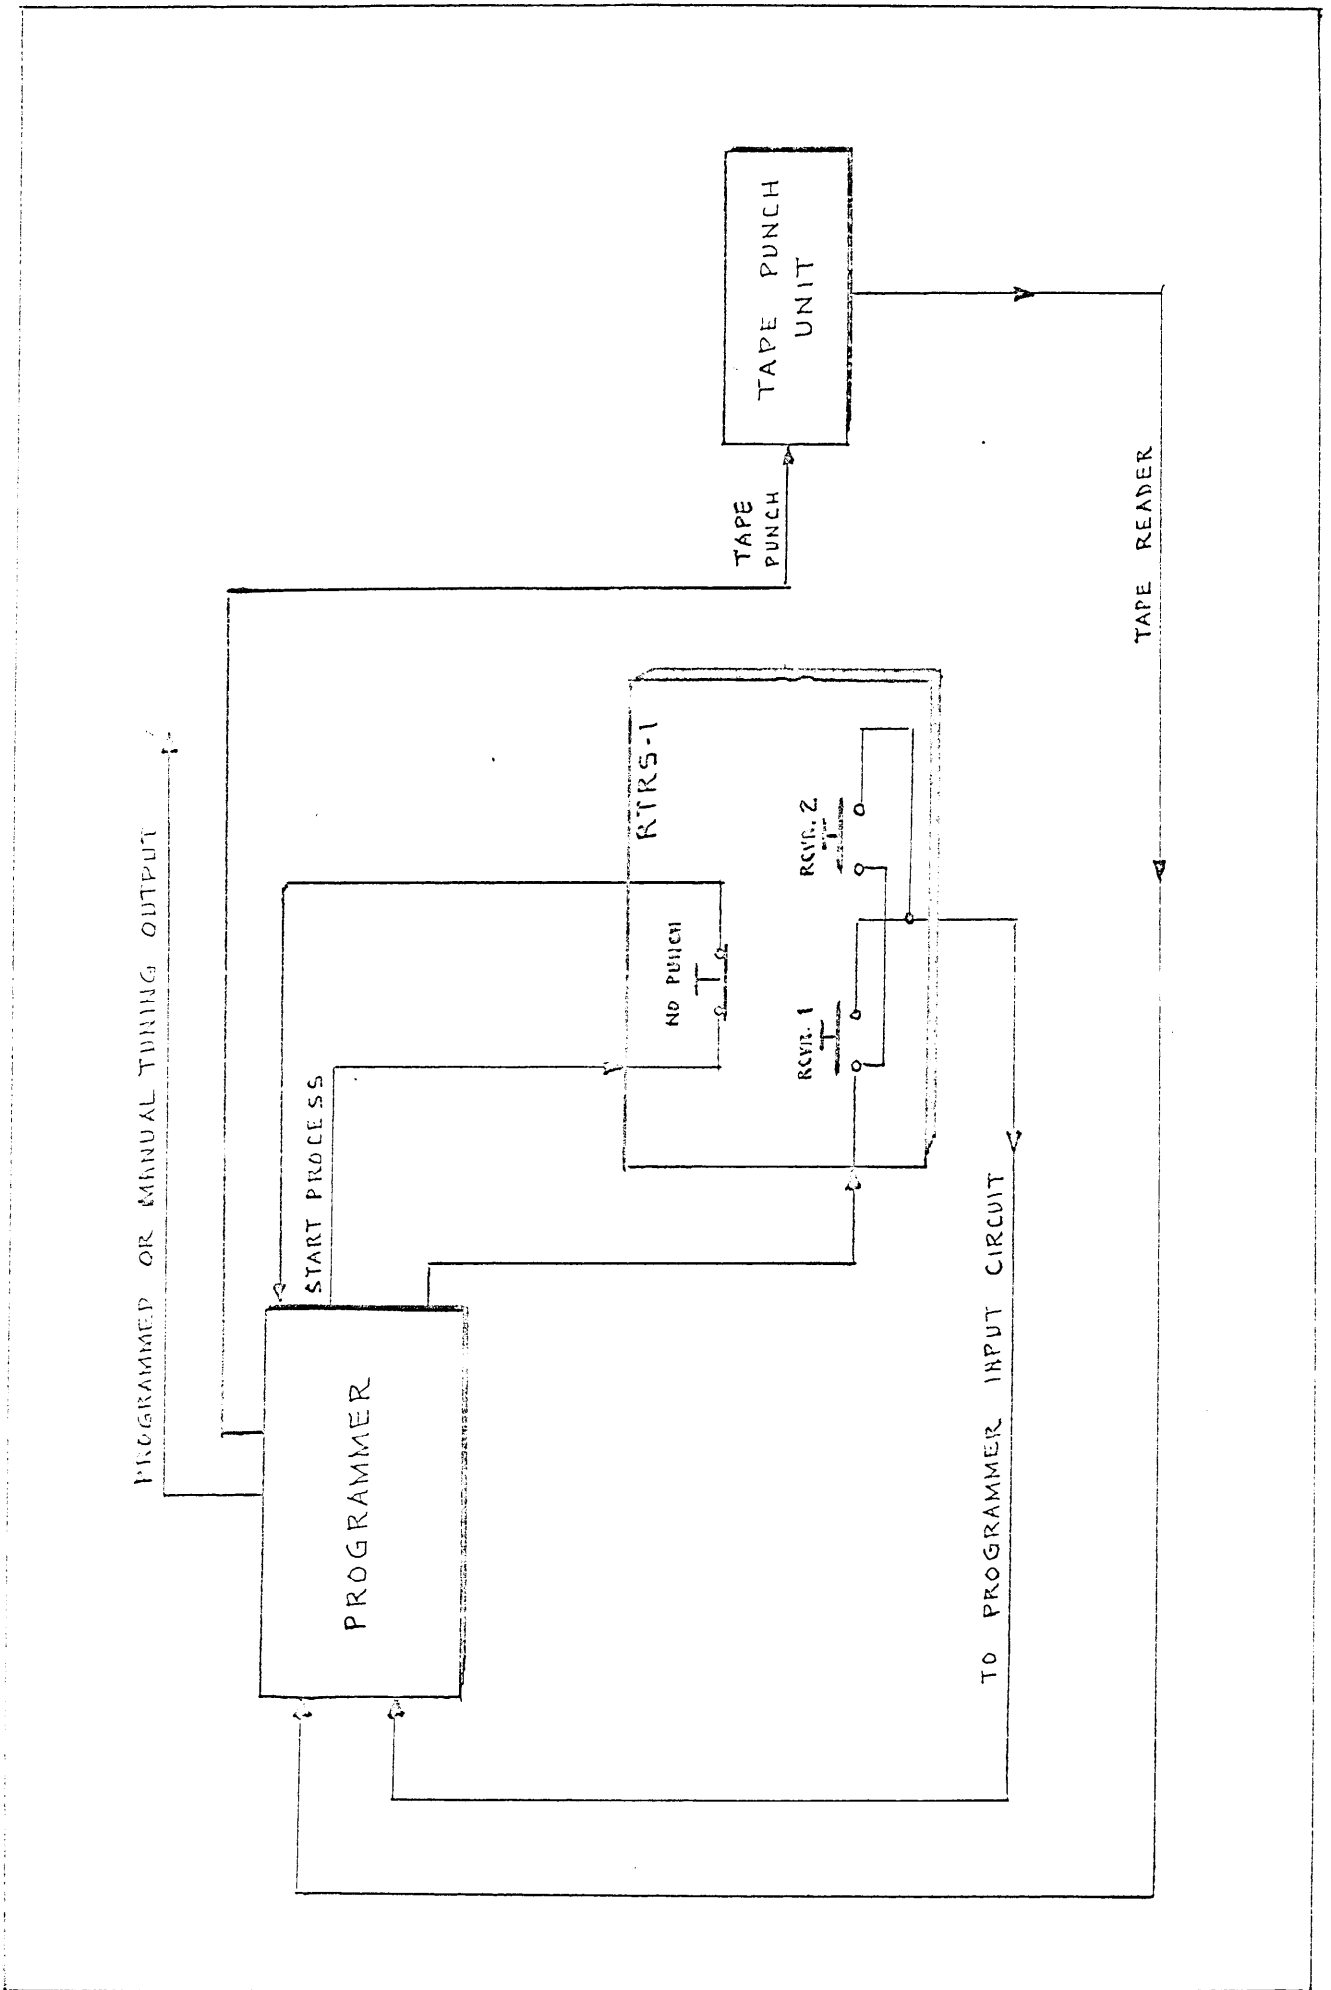

Figure 4-1. Functional Block Diagram
- b. Functional block diagram (Figure 4-1.)